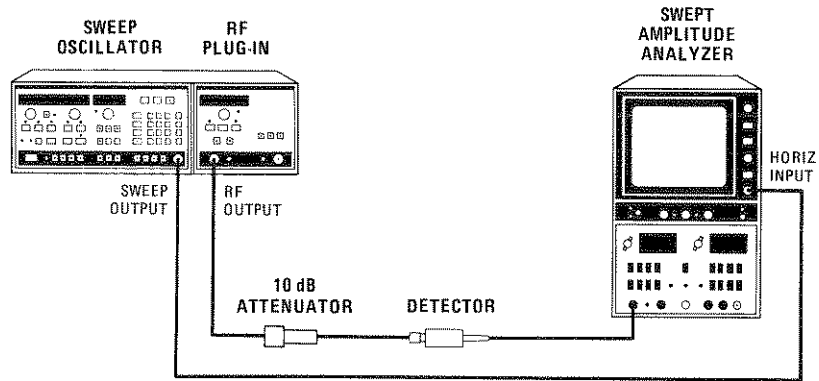

Figure 5-37. Power Sweep Test Setup
1. Connect the equipment as shown in Figure 5-37. On the 8350A, press **INSTR PRESET** **MOD**. Allow the equipment to warm up for one hour.